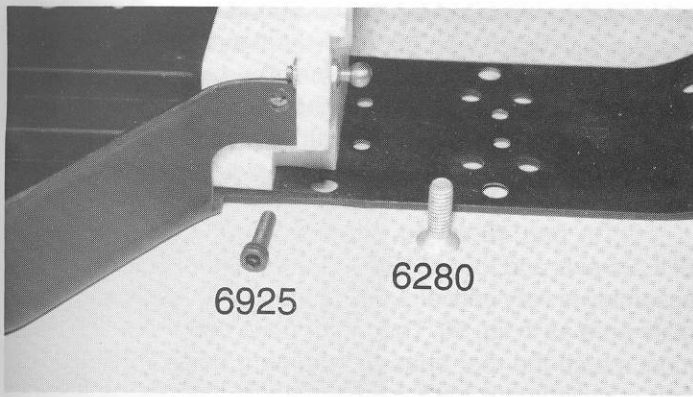
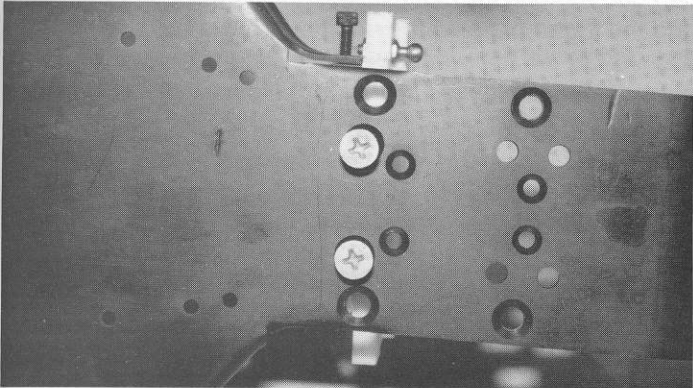

Fig. 80
Fig. 81
□ **Figs. 80 & 81** Take two #6280 8-32 x 1/2" aluminum FHMScrews and two #6925 4-40 x 1/2" SHCScrews from bag #6-4. We are going to insert the rear bulkhead between the two chassis side tabs (with the ball ends to the back of the chassis) as shown in fig. 80. Install the two #6925 4-40 screws into the bulkhead through the sides of the chassis, but do not tighten them down yet. Now thread the two #6280 8-32 screws through the bottom of the chassis into the bulkhead. (See fig. 81). Do not tighten them down yet; we will tighten these four screws later in the instructions.